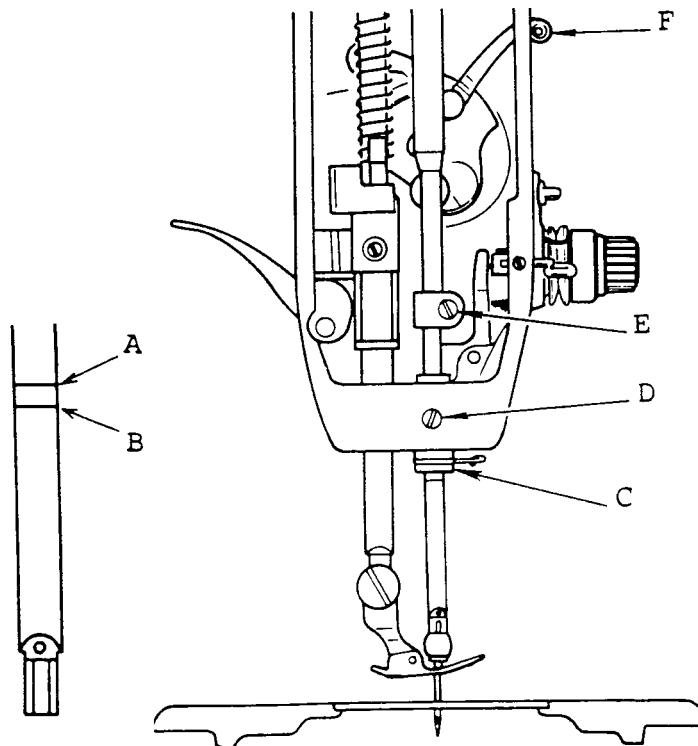
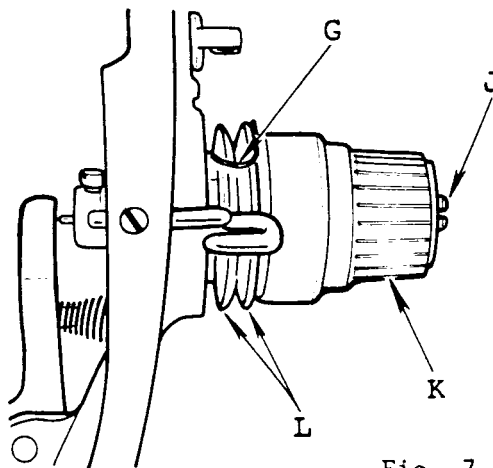

Fig. 2
Fig. 7
Turn hand wheel over toward you until needle bar is at its lowest point. Timing mark A should be level with lower end of lower needle bar bushing C, Fig. 2.
To reset, loosen screw E, Fig. 2. Raise or lower needle bar as required and firmly tighten screw E.
To set the lower needle bar bushing in the correct position, turn hand wheel until the needle bar is at its lowest position, loosen lower needle bar bushing set screw D, Fig. 2 and raise or lower bushing C as required to bring its lower end exactly level with timing mark A, on needle bar. Securely tighten screw D.
2. Turn hand wheel over toward you slowly and stop machine when take-up lever F, Fig. 2 ascends to its highest position. At this point the stitch is set and the check spring G should be drawn all the way down, as shown in Fig. 4.
Tension on check spring G should be sufficient to ensure action at top speed but still light enough to permit itself to be drawn all the way down before any thread is drawn through the tension discs L, Fig. 7 (as take-up lever F, Fig. 2 approaches height of stroke).
1. To obtain the correct check spring tension, make certain thumb nut K, Fig. 7 is on stud J.